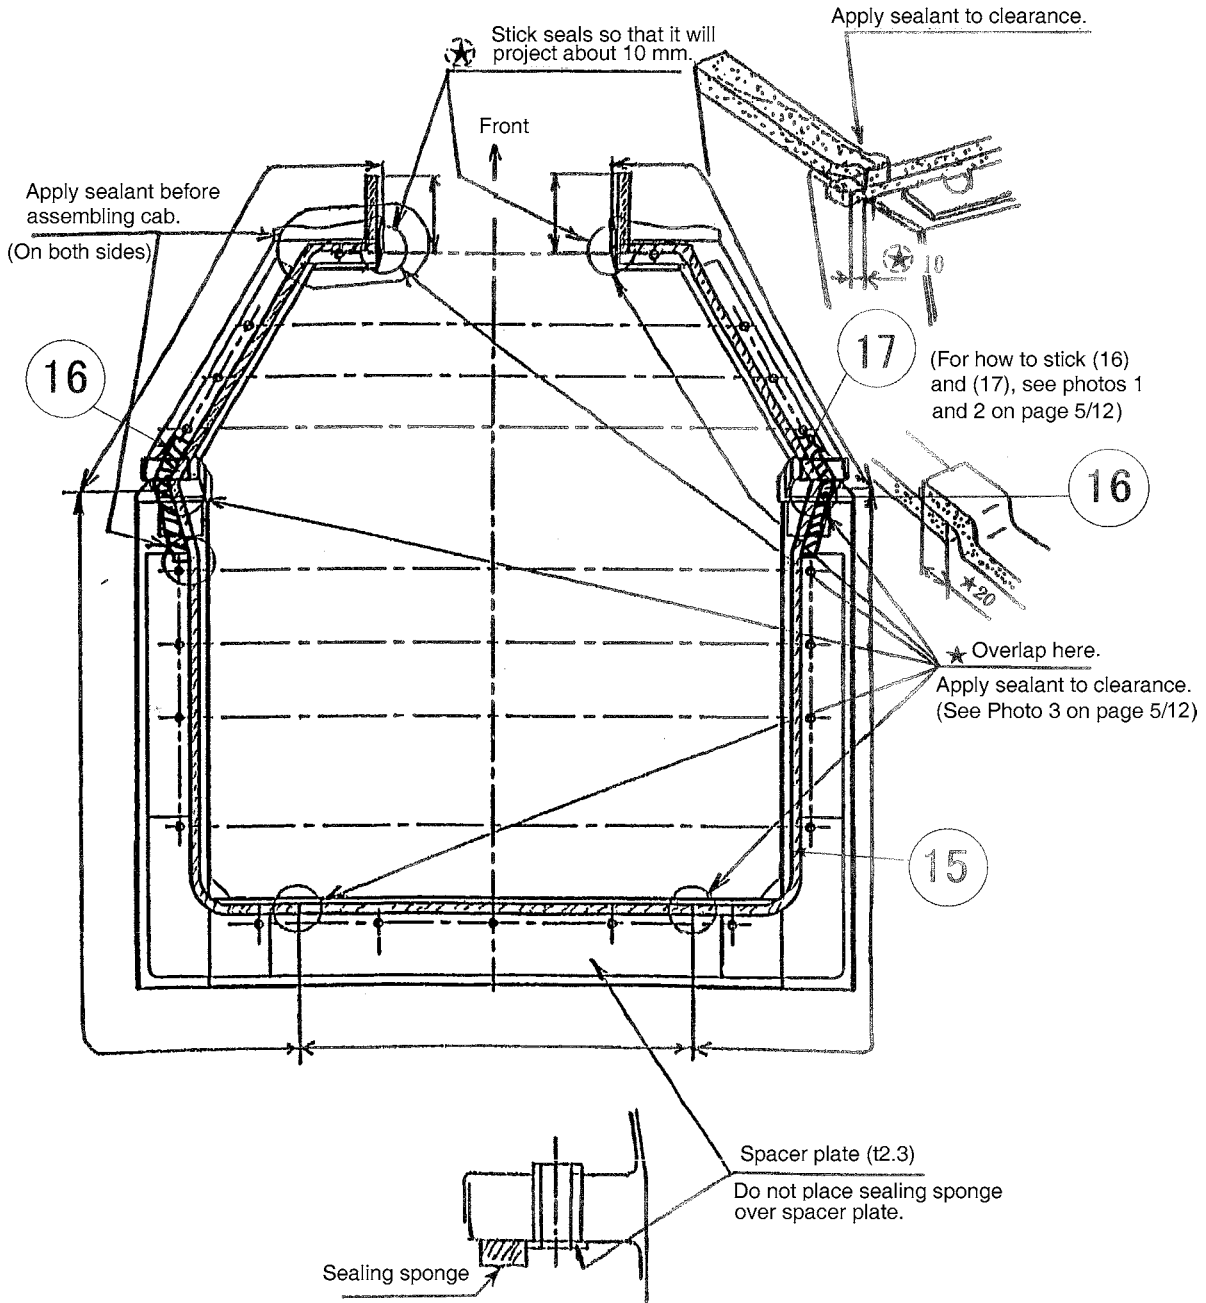

Fig. 4 How to stick seals (View from bottom of operator's cab)
(2) Remove dirt, oil, and grease from the seal sticking faces.
(3) Remove the release paper from seals (15), (16), and (17), and then stick the seals, referring to Fig. 4 on the next page.